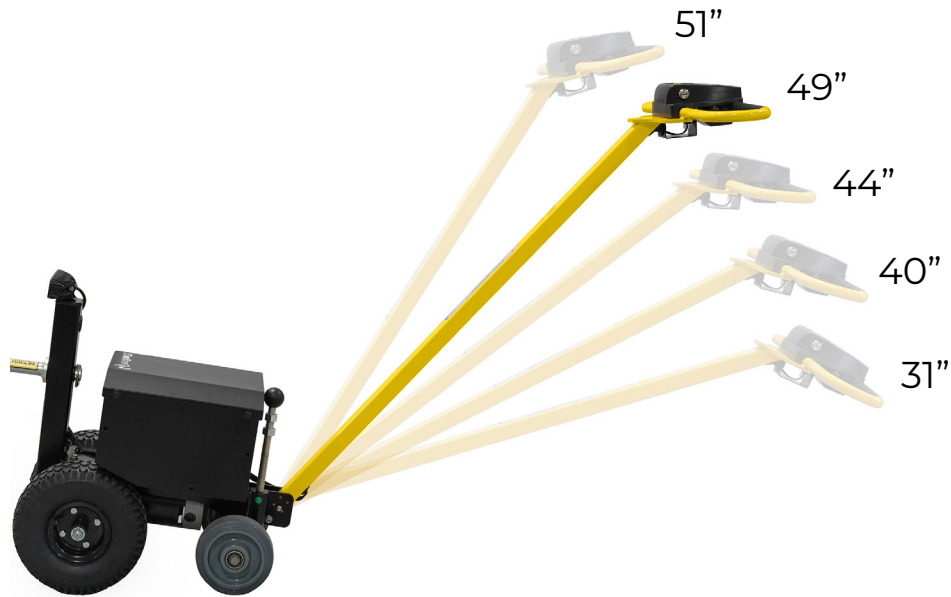

Figure 3
**Note:** Handle height is measured from the ground with the fork parallel to the ground (Figure 3).